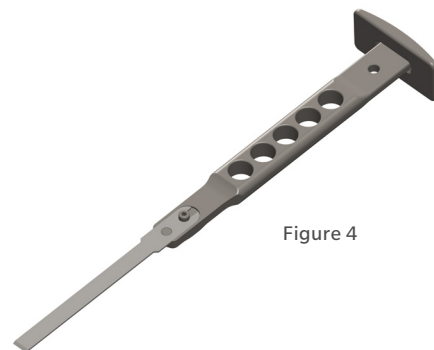

Figure 4
3. The final assembled instrument is shown on Figure 4.